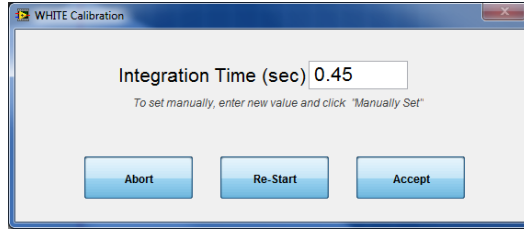
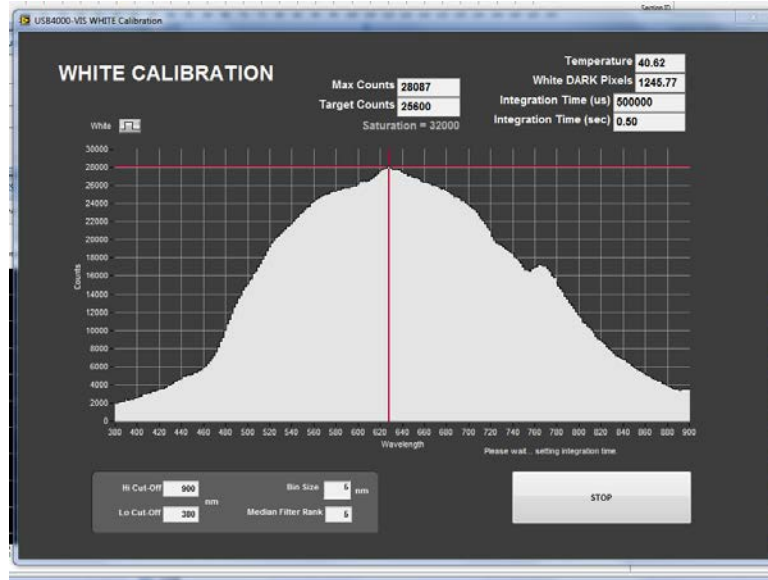

Figure 9. Integration Time Display.
Figure 10. White Calibration Spectrum.
3. Click **Accept** to accept the suggested integration time (Fig. 9). The logger will then take 20 measurements of the white standard at the automatic integration time (Fig. 10).